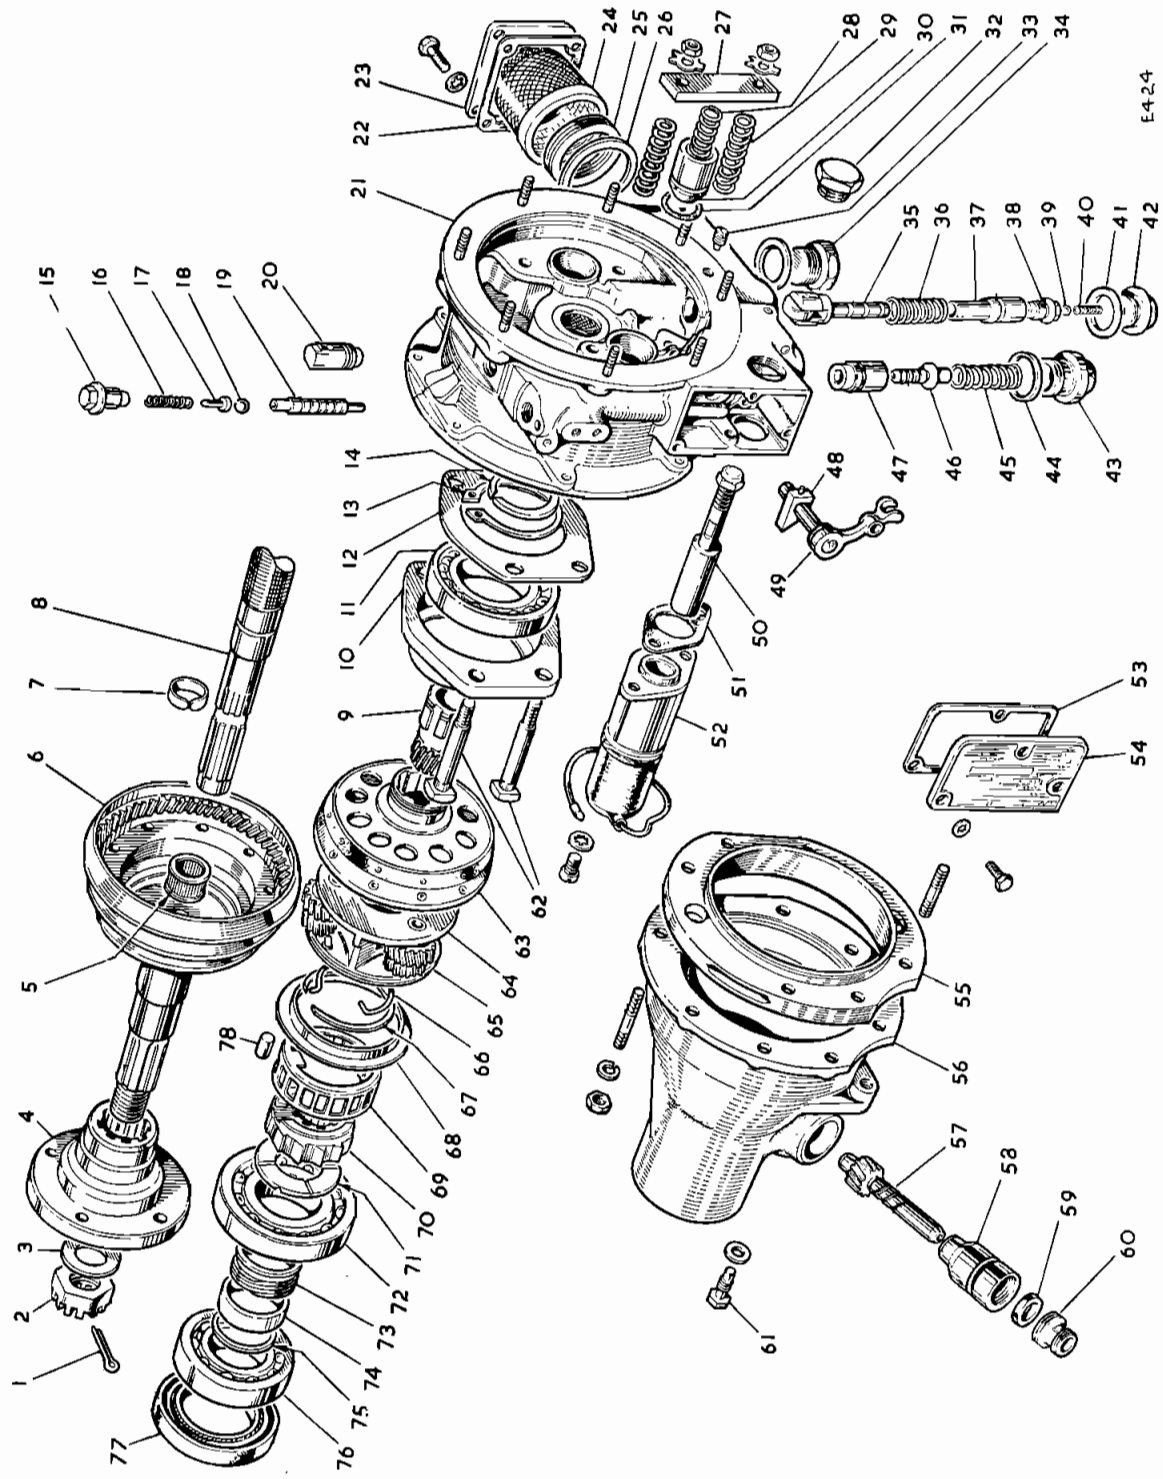

Fig. 13. Overdrive unit
KEY TO FIG. 13
**DISMANTLING (Fig. 13)**
**RE-ASSEMBLY (Fig. 13)**